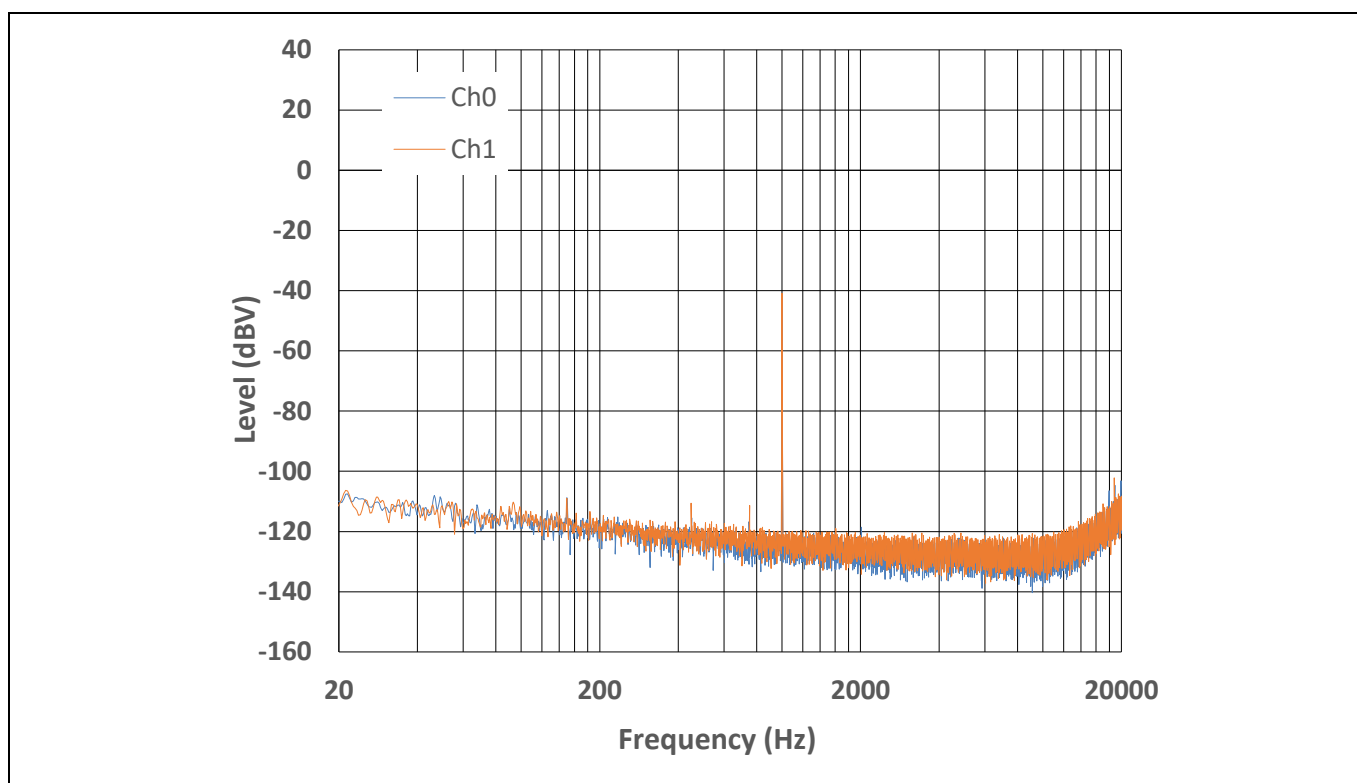

Figure 10 **Output FFT spectrum**
The Figure 10 shows the output spectrum that has been obtained by applying 1 mVrms (1 kHz) input signal to both channels. This gives an output signal of -40 dBV. The noise floor for these settings is shown in the Figure 10. The integrated, A-weighted noise floor number for both channels is 70 μ Vrms (AW).